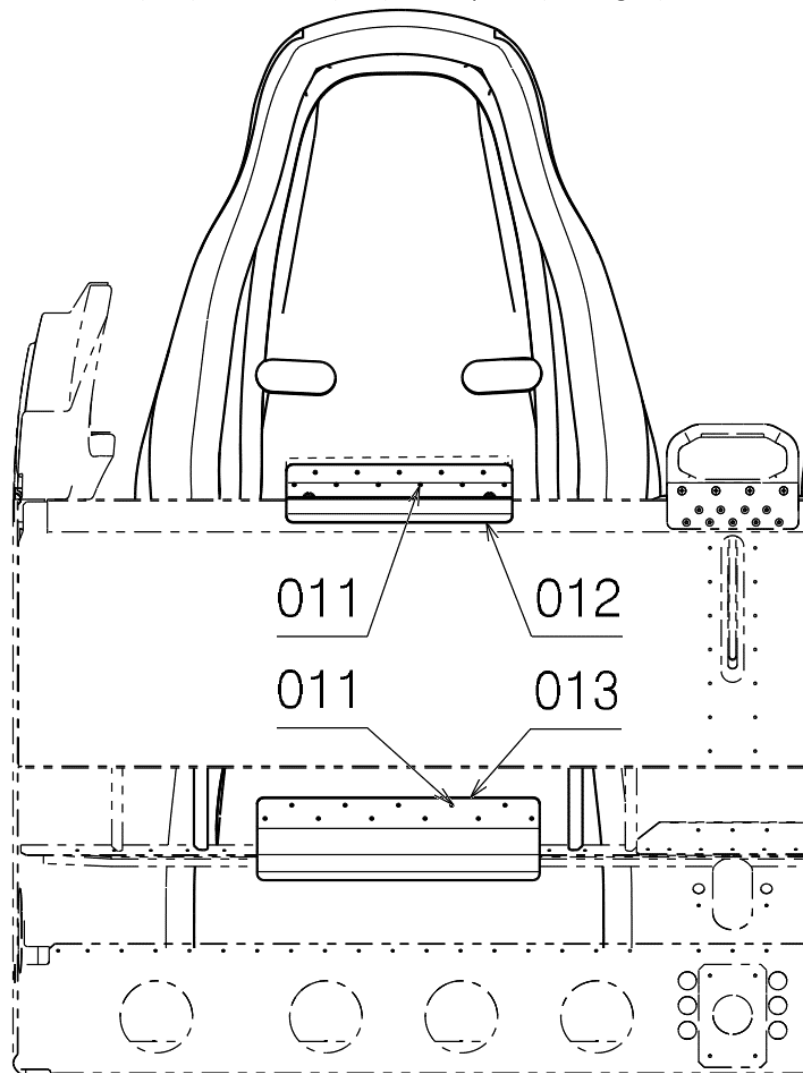

Fig. 2: Rivetted hooks
- 6) Remove the seats and rivet the hooks with rivets 011 (see Fig. 2).